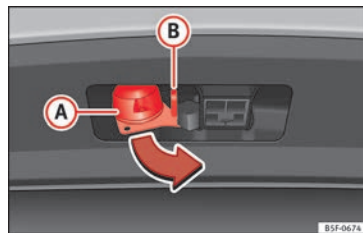

Fig. 237 Turn the 13-pin connector
- Grip the 13-pin connector at area **A** and remove it in the direction of the arrow **»» Fig. 237**.
- Grip the 13-pin connector at area **A** and insert it in the opposite direction to the arrow **»» Fig. 237**.
The safety lug **(B)»» Fig. 237** is used to hook up the trailer's retainer cable.